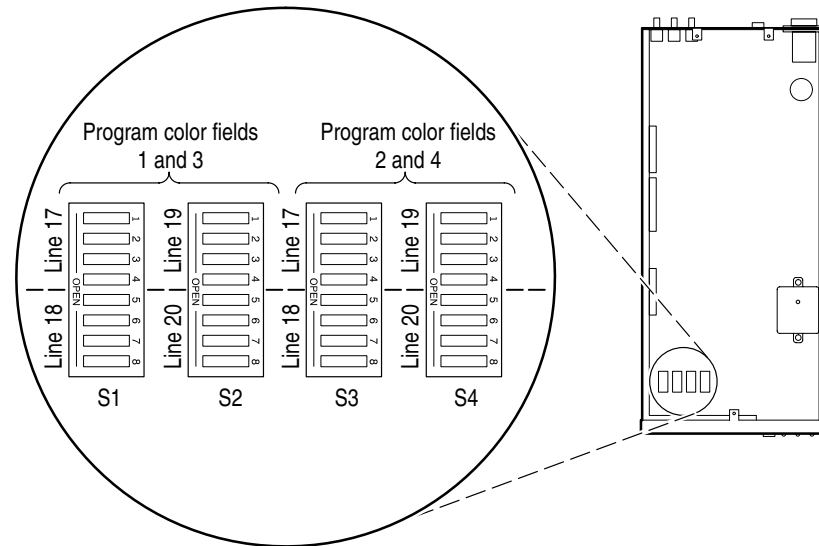

Figure 6–3: VITS selection DIP switches
- Figure 6–1 shows the location of adjustments and test points (TP) used in this procedure.
1. Connect a multimeter to TP2 (test point 2) and TP7 (ground) on the circuit board. See Figure 6–1 for the location of the test points.
5. Connect a 75 Ω coaxial cable from the VITS inserter PROGRAM OUT to the waveform/vector monitor Ch A input. Terminate the remaining side of the loop-through input with a 75 Ω end-line terminator. See Figure 6–2.
1. Connect the test signal generator to the CH A input of the waveform/vector monitor with two 75 Ω coaxial cables and a female-to-female BNC connector as shown in Figure 6–4. Terminate the remaining side of the monitor loop-through with a 75 Ω terminator.
7. Set VITS selection DIP S1, segments 1 through 4, to 0001 (segments 1, 2, and 3 closed and segment 4 open). See Figure 6–3 for the location of S1.
7. Connect the multiburst output from the television test signal generator/sync pulse generator (TSG/SPG) to the peak-to-peak detector head input with two 75 Ω coaxial cables and a female-to-female BNC adapter, as shown in Figure 6–6.
17. Adjust R210 and C165 for a display on the Test Oscilloscope that matches the sweep envelope to the previous waveform ± 4.3 mV from 2 MHz to 6 MHz (second marker to fourth marker) and ± 12.9 mV from 6 MHz to 10 MHz (fourth marker to sixth marker). See Figure 6–7.
2. Connect the X10 probe from the Frequency Counter input to VITS inserter TP 11. See Figure 6–1 (on page 6–4) for test point location.
4. Remove the plastic plug from the oscillator cover to reveal C19. See Figure 6–1.